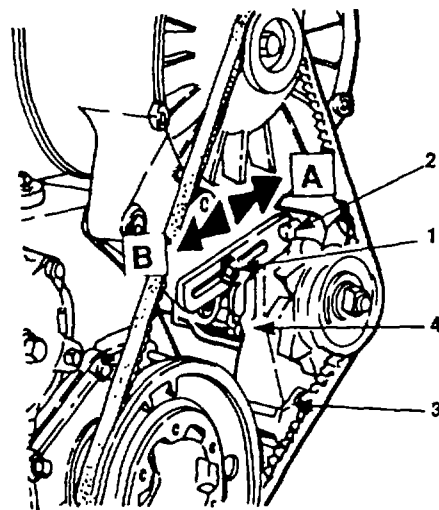

Figure 3-19. Adjusting V-Belt Tension
- a. Slacken hex bolts (1, 2, and 3; figure 3-19).
- b. Pull alternator (4) in direction A until the correct belt tension is obtained.